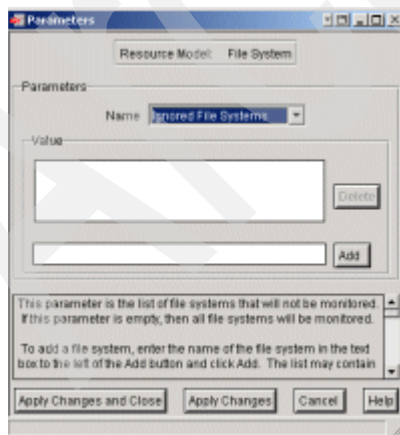

Figure 9-115 Parameters window for File System resource model
4. Select **Parameters**. The Parameters window opens as shown in Figure 9-115.